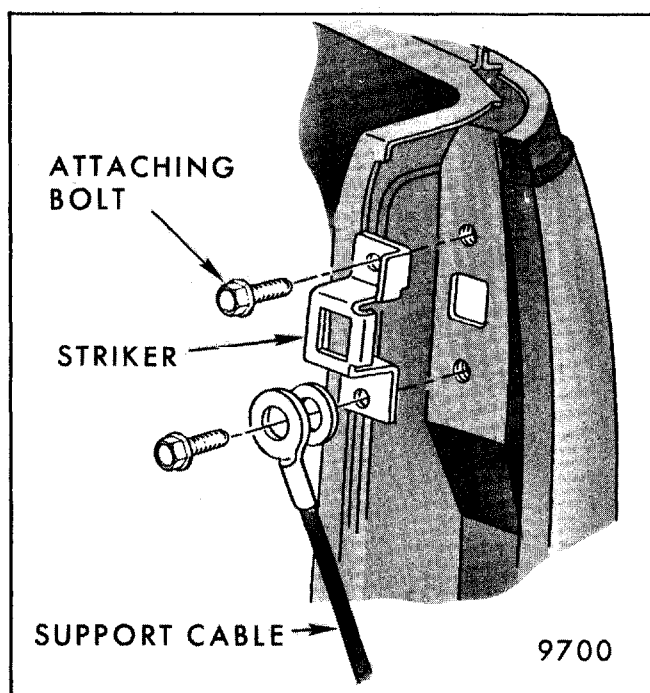

Fig. 7-97 - Tailgate Striker A-80 Style
2. Disengage support cable return spring and remove cable attaching bolts on tailgate and body pillar (Fig. 7-97). Remove support cable.
3. To install, align striker within marked area and install attaching screws (Fig. 7-97).